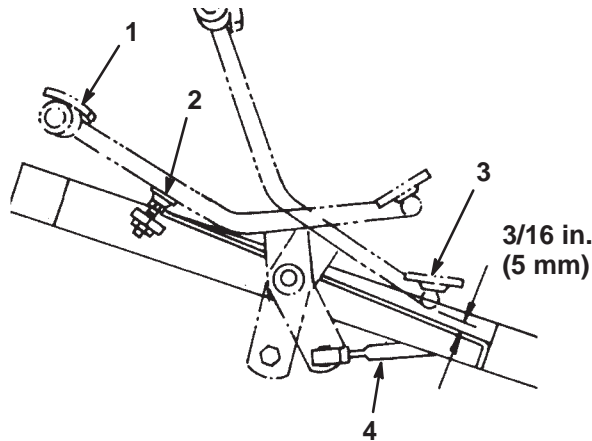

Figure 48
1. Press the traction pedal fully forward until the No. 5 section valve spool is completely pulled out. The pedal should contact the pedal stop (Fig. 48).
2. Check the distance between the bottom of the pedal and footrest as shown in Figure 48. The distance should be approximately 3/16 in. (5 mm). If the distance is greater or less than 3/16 in. (5 mm), an adjustment to the traction control rod is required. Proceed as follows:
- A. Remove the jam nut and ball joint securing the control rod (Fig. 48) to the traction shaft pivot.